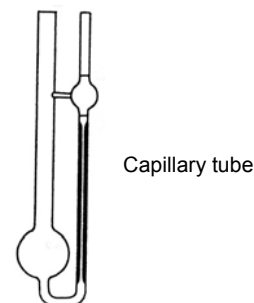

Figure 8 Capillary Viscometer (Free-fall)
There is another type of capillary viscometer made of glass as shown in Figure 8. Although processing of this capillary tube is not easy, it has rather simple principles and a simple structure. Due to the simplicity of its principles, it has been used since early times and has greatly improved over time. This capillary viscometer can obtain kinetic viscosity  $\nu$  by measuring time  $t$  taken by a certain amount of sample to flow by free-fall through the capillary tube. Each viscometer is given the viscosity constant  $C$ , which was valued by calibrating with Viscosity Standard Fluid. The measurement of kinetic viscosity with this capillary viscometer is represented by equation (15) below;
Unlike the vibro viscometer or the rotational viscometer, the capillary viscometer or the falling-ball viscometer shown in Figures 8 and 9 cannot continuously measure viscosity. It is also impossible to continuously output digital signals of viscosity coefficient or to control data.